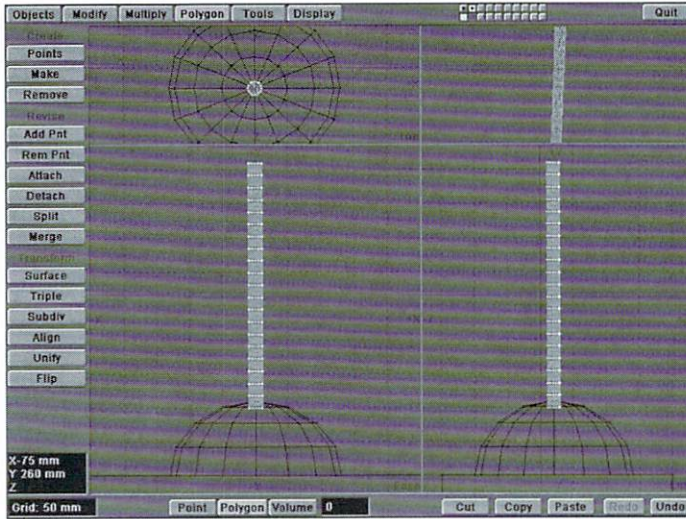

Figure 11: Tripling polygons in preparation for use as a morph target.
- Since we're going to be bending and twisting our antenna, we will want to make sure that the bending process will not create non-planar polygons. Tripling our polygons beforehand will do the trick. Making sure that you are in Polygon Select mode and have nothing selected, go to the Polygon menu and click Triple (Shift-t) to triple every polygon (Figure 11). Save this object as "Antenna1.lwo".